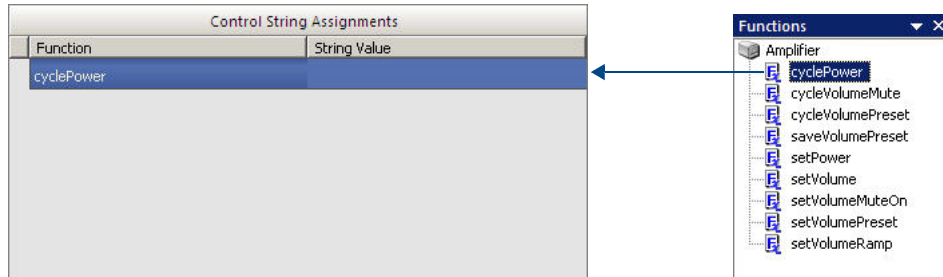

FIG. 49 Control Strings Definition dialog - Functions and Control String Assignments windows
3. Double-click on any function in the *Functions* window to add it to the *Control String Assignments* window (FIG. 49).